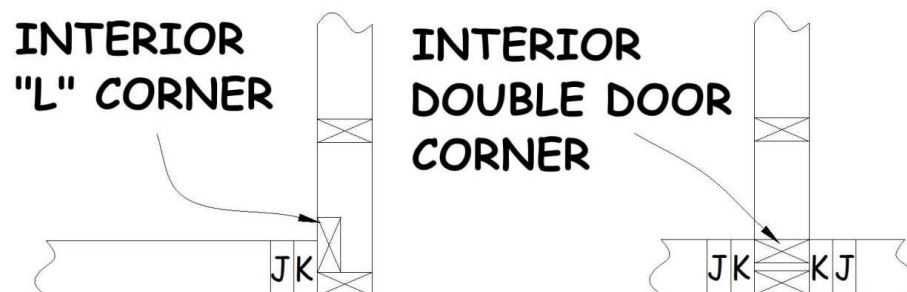

Figure 6-9. Corner Construction.
4. Where a door will be attached at the end of a bathroom or bedroom wall, mark the end of the wall for a 2x4 L-corner oriented to allow nailing through the L-corner into the King stud of the door as shown in Figure 6-9 (similar to the 2x6 L-corners used in the exterior walls). If doors are to be attached on both sides of this same wall, omit the L-stud, and orient the additional 2x4 as shown.